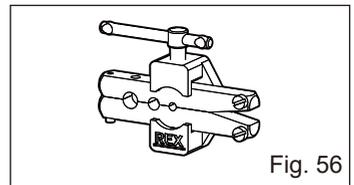

Fig. 56
2) Clamp with flaring bar for 1/4", 3/8", 1/2" (Fig. 56)